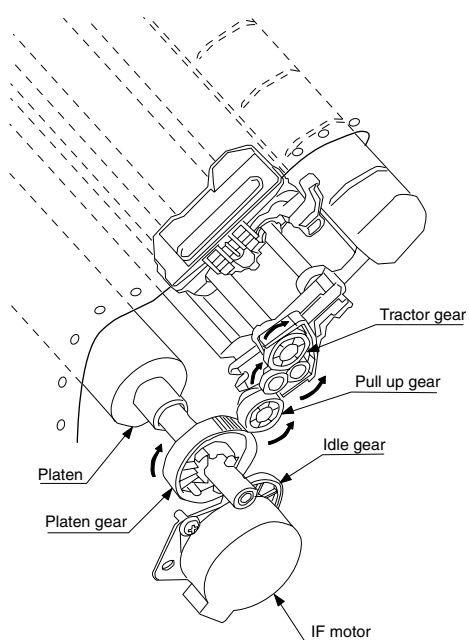

Figure 9
(4) Bottom push feed operation (See Figure 9.)